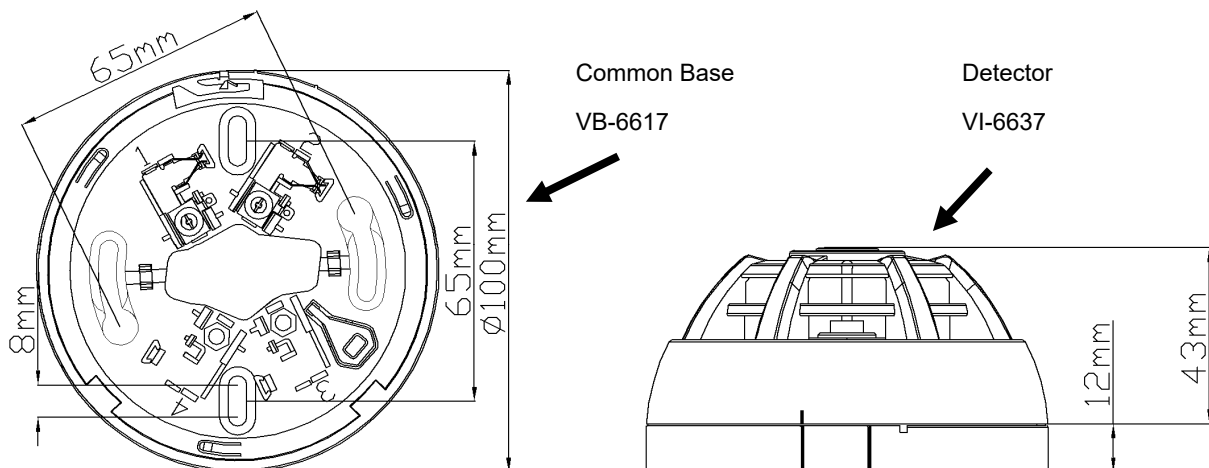

Fig.1 Dimensions
- ◇ **Dimensions:** Showing on Fig.1